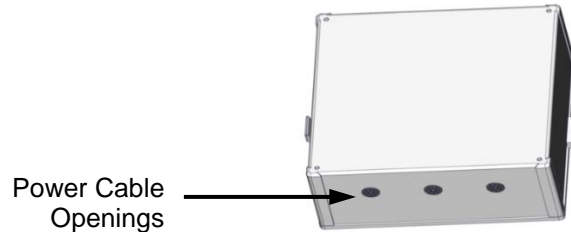

Figure 2: Power Cable Opening
- Run the 120V power cable (item 4 in Section 1) through one of the predrilled openings in the bottom of the enclosure (see Figure 2). If there are no predrilled holes, drill a hole of the appropriate size bushing or conduit to run the power cable through.